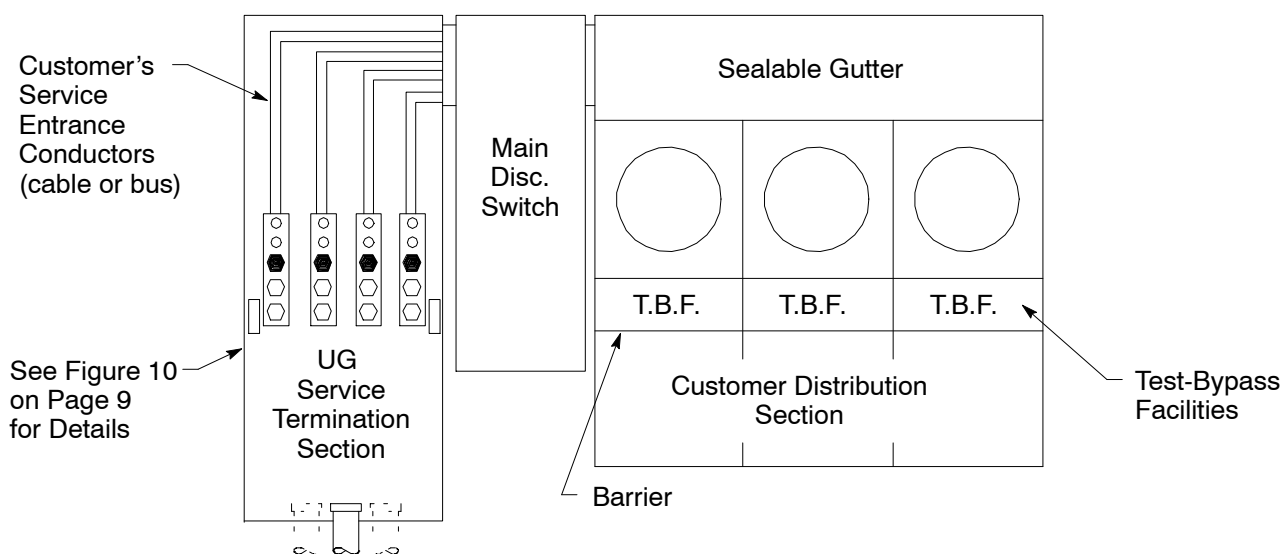
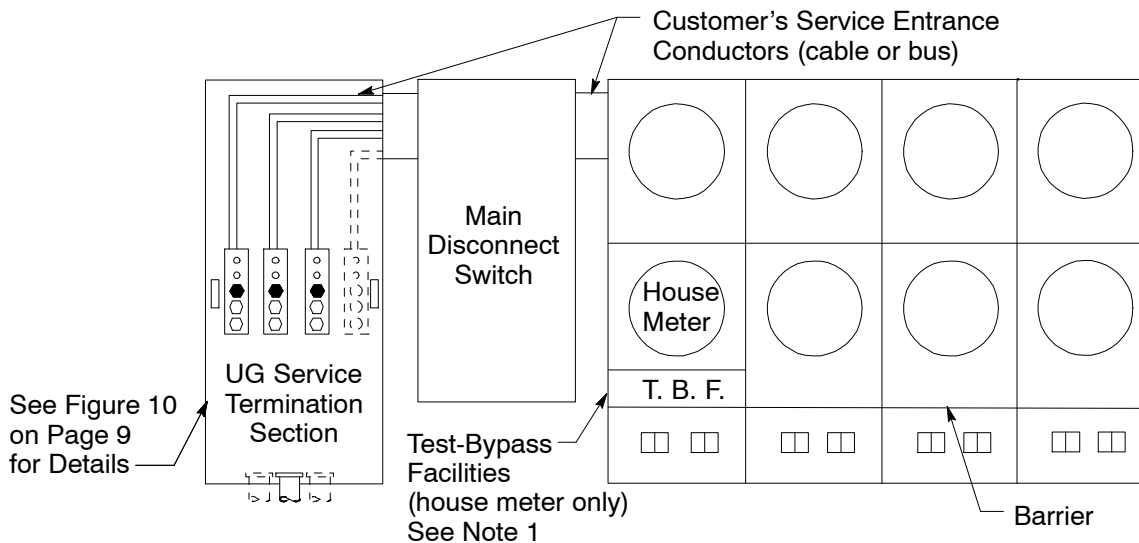

Figure 4
Figure 9
- (1) Aluminum termination bus stubs with NEMA standard mounting bolts (see Paragraphs 4B(3) and 4B(4)) shall be provided for the connection of service lateral conductors in customer's service equipment where the main disconnect (or service equipment rating, if there is no main disconnect) is rated more than 200 amps. PG&E will furnish and install the termination connectors.
- (2) The standard provisions for terminating either phase or neutral conductors shall consist of one pair of 1/2-inch bolts on 1-3/4 inch vertical centers for equipment rated 201 – 400 amp panels. An additional pair of 1/2-inch bolts (on 1-3/4 inch vertical centers) shall be provided on 2-inch horizontal center for each additional 400 amp increments, or multiples thereof, of service capacity up to 2,500-amp panels (e.g., 1 pair for 400 amps, 2 pairs for 600 and 800 amps, 3 pairs for 1,000 and 1,200 amps, etc.) See Figure 4 on Page 5.
- (3) Cable termination mounting bolts shall be 1/2-inch cadmium-plated steel or equivalent and shall extend a minimum of 2 inches from the mounting surface. They shall be supplied with nuts, flat washers, and a pressure maintaining spring washer and shall be secured in place in such a manner that a termination connector can be positioned and connected with the washers and nuts, using one tool only from the front. Bolts shall have a head behind the termination pad and be of a recognized captive or swedge restrainer design.
- (4) A radial clearance of 1-1/2 inch is required between any termination facility (including bolts) and any other termination facility, bus, or grounded surface in the terminal mounting area except (1) the minimum clearance to the back of the pull section or to the front pull section cover may be 1 inch and (2) the neutral termination facility may have a minimum clearance of 1 inch from any grounded surface.
B. When a multi-unit residential meter panel services either a three-phase or a larger than 200-amp single-phase house (utility) load, it shall be equipped with approved test-bypass facilities (see Figure 9 on Page 8).
1. When a multi-unit residential meter socket panel will have either a three-phase, or a larger than 200-amp single-phase house (utility) meter, the socket for this meter shall be equipped with test-bypass facilities (see Figure 9).